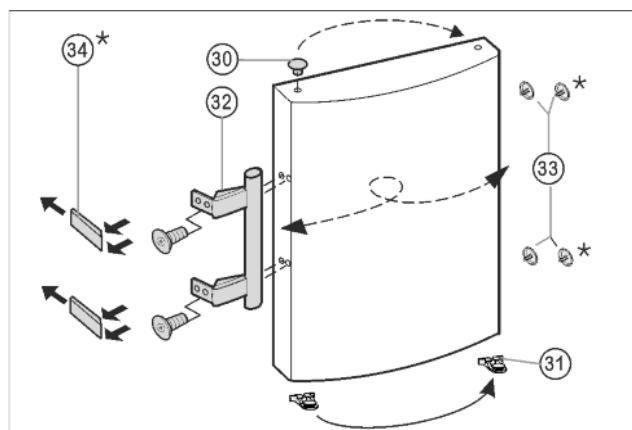

Fig. 7
- Lift the stopper Fig. 7 (33) out of the door bearing bush and transfer it.
- Dismantle the door handle Fig. 7 (32), stoppers Fig. 7 (33) and pressure plates* Fig. 7 (34) and transfer to the opposite side.